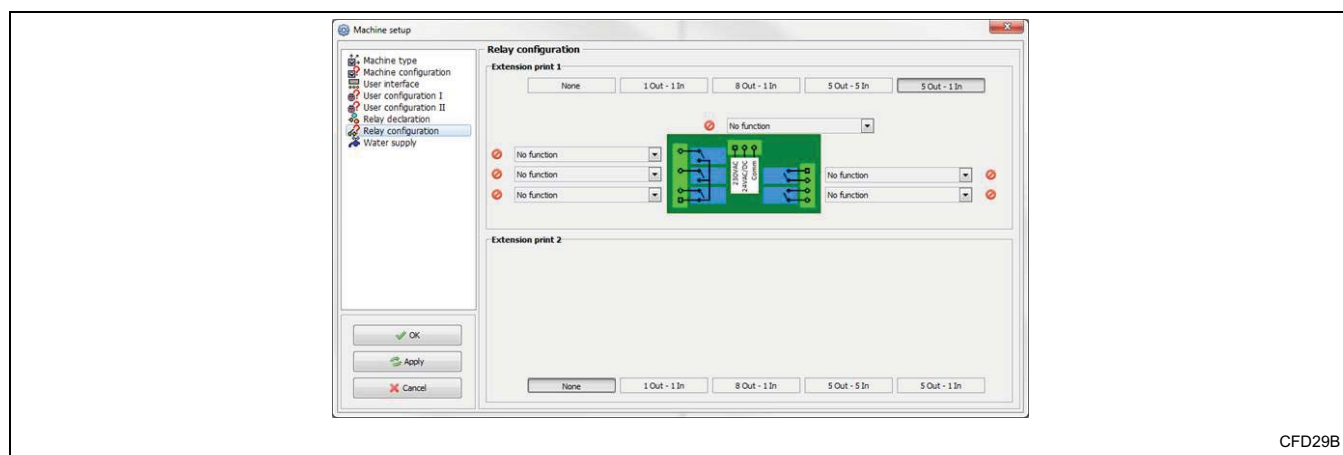

Figure 2
2. In the *Relay configuration* portion of the *Machine setup* menu, determine the expansion board type. If necessary, change the expansion board type to “5 out 1 in”. Refer to *Figure 2*.